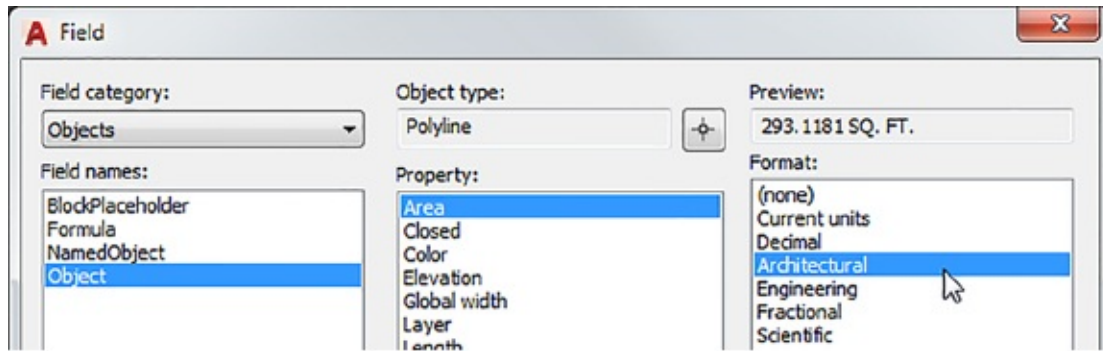

FIGURE 10.4 The Architectural option in the Format list
9. Select Architectural from the Format list to the far right (see Figure 10.4).